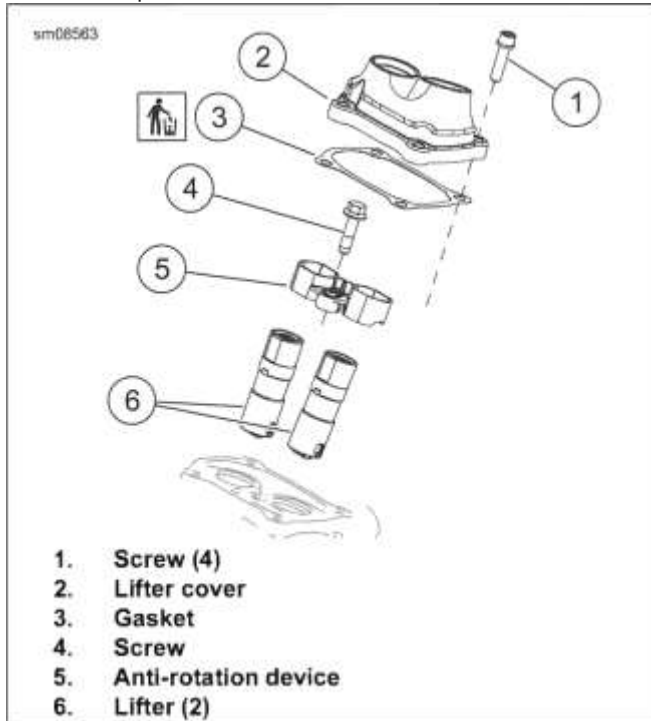

Figure 4-25. Lifter Cover
1. See Figure 4-25. Remove lifter covers. a.
- d. See Figure 4-25. Install anti-rotation device.
- e. Install screw (4). Tighten.